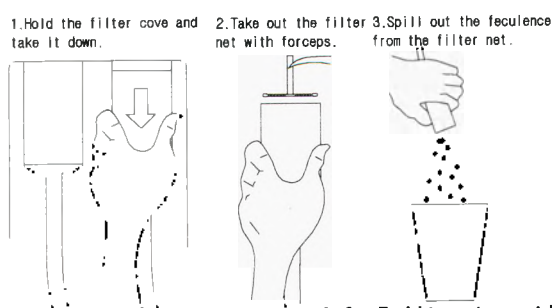

Figure 4-6 Built-out suction filter
4.1.3.2 When clean up the built-out filter, hold the crust of filter and pull it down (note: do not shake the crust, for fear it will be mangled). Then take out the filter net by plier and wash up the net and filter crust cleanly with water, then mount the filter net as former. (Figure 4-6)